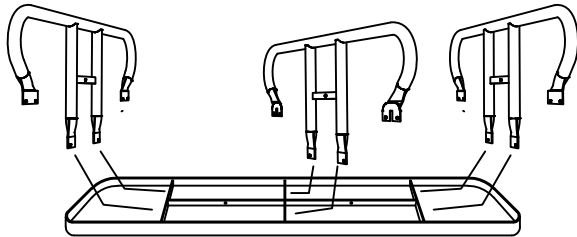
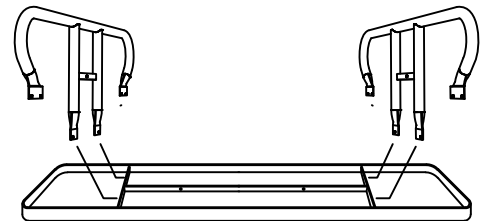

FIG. 1
FIG. 2
Invert (A-) top so it's upside down on a flat surface. Attach both (C-) legs to the outermost part of the top's end leg mounting brackets with seat mounting brackets toward inside of top, see FIG. 2. If assembling a 10' table, attach the center leg at this time with seat mounting brackets toward top center leg mounting bracket, see FIG. 1. Use two, per each leg, (F) and (H) using two (G) and one (J) per each (F).
Secure the opposite end of each brace to the top's center support brace, see FIG. 4, refer to FIG. 1 or 2, using one, per each brace, (F) and (H). Use two (G) and one (J) per each (F).